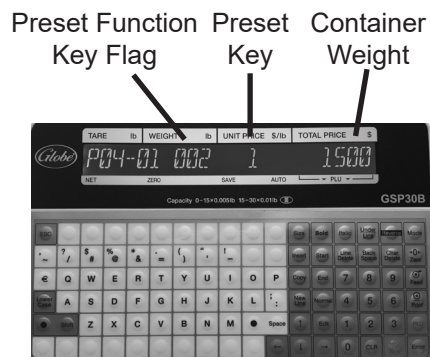

Figure 15-3
8. Key in weight of the container. Press the desired preset key. See Figure 15-3.